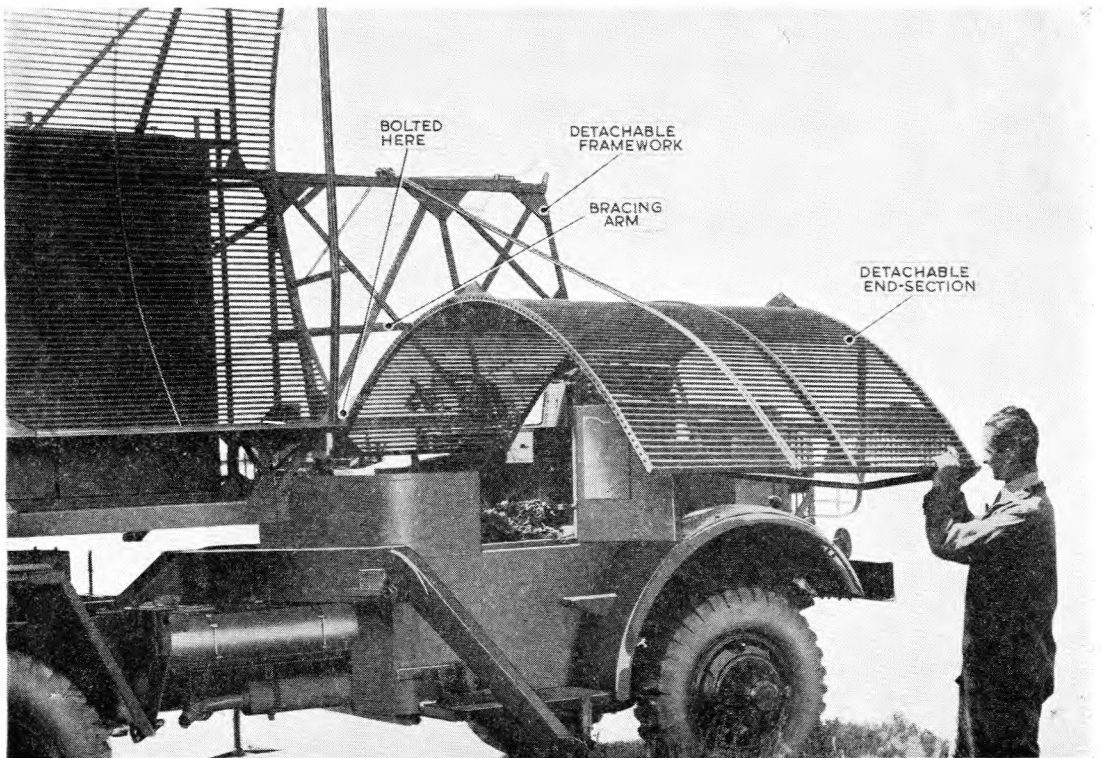

Fig. 16. R.V.462C : method of assembly of reflector end section
- (1) Remove the jacking boards from the space between the cab and container.
- (2) Fit the framework which will support the detached end section of the reflector. Bolt in position as shown in fig. 16.
- (3) Fit the four bracing arms (one is shown in fig. 16). These are pre-set in length and are secured by means of Oddie fasteners.
- (4) Erect the end section of the reflector, taking care not to damage it.